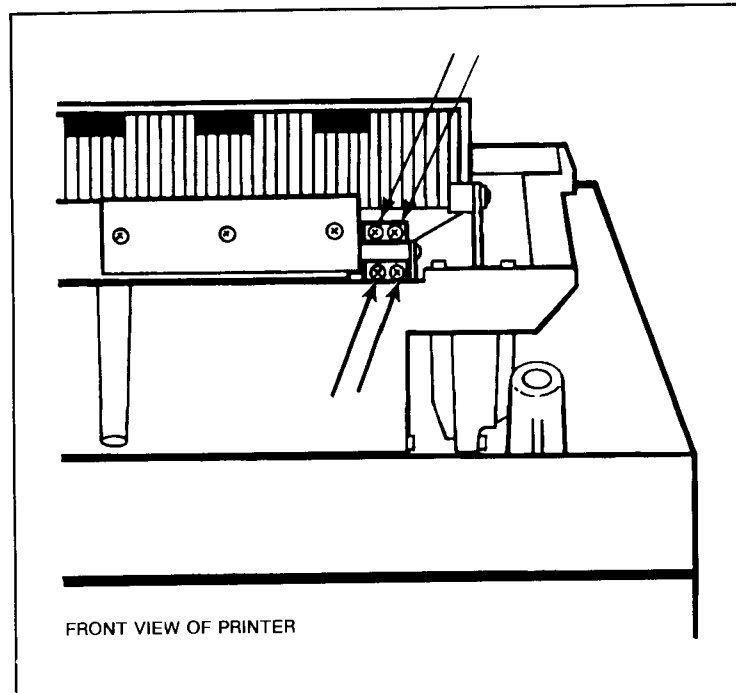

Figure 5-2. Crank Arm Screws
- e. Loosen all four crank arm screws (see Figure 5-2). Move the counter balance weights until the scribed line is parallel with the edge of the adjustment tool.